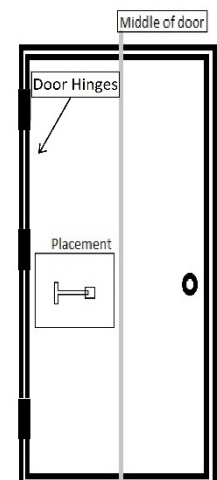

Figure 3
- Make sure the T-Pull Door Closer doesn't interfere with the door's hinges when door closes. (see Figure 3).